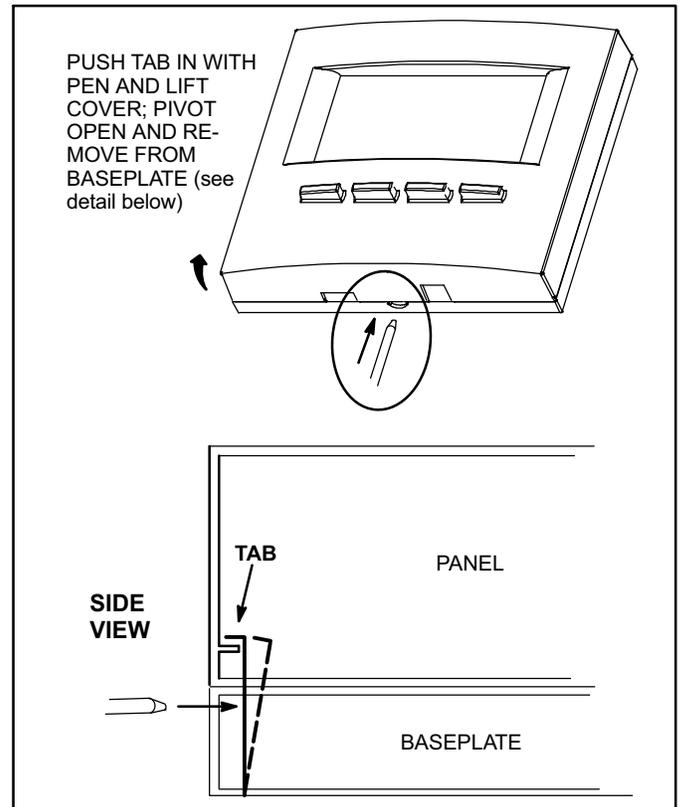

Figure 1. Network Control Panel (NCP)
2. Remove panel from the baseplate. See figure 1.